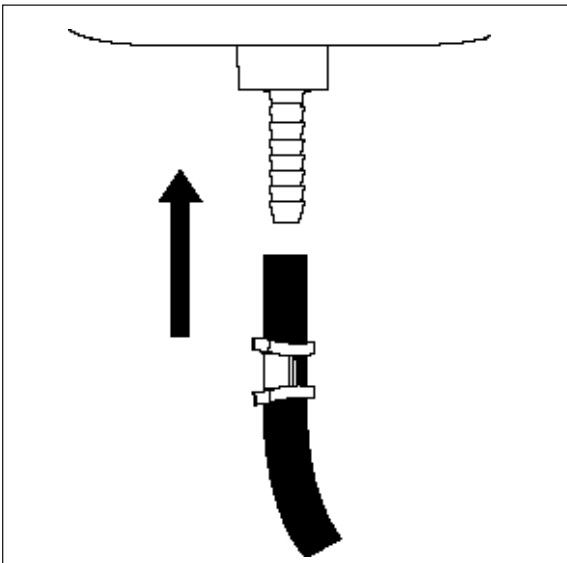

Figure 4
- h. Push the air line onto the stem of the air spring, covering all the barbs (Figure 4).
- Push the air line onto the stem of the air spring, covering all the barbed section (Figure 4).
- With pliers slide the air line clamp forward until it fully covers barbed section (Figure 4).